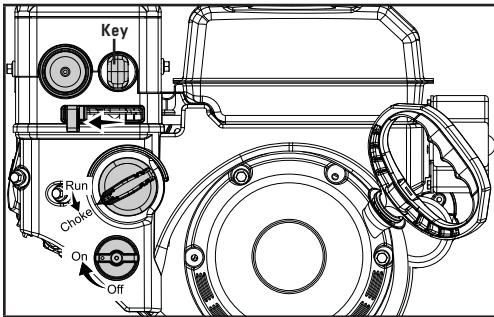

Figure 11A
1. Make sure the engine safety key is inserted into the key hole (Fig. 11A).
2. Move the fuel valve lever to the on position (Fig. 11A).
- a. To start a cold engine, move the choke lever to the choke position (Fig. 11A).